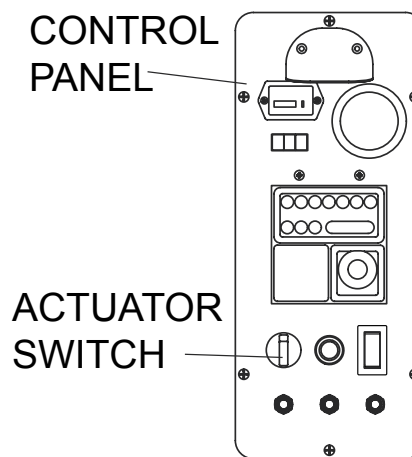

Figure 11. Actuator Switch
1. Turn the actuator switch on the control panel (Figure 11) to the right to raise the lamp stand up.